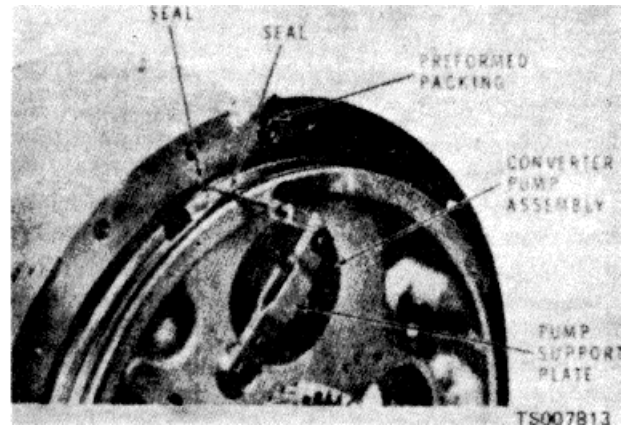

Figure 14-10. Torque Converter Housing Showing Pump and Seals
j. Position the gear (34) on the drive shaft of the converter oil pump (35) and press the gear over the shaft. Place the washer (33) on the shaft and secure in place using the retaining ring (32).
k. Position the converter pump assembly on the plate (40) and secure them together using the screws (36) and lockwashers (38). Torque bolts to 20 to 25 ft/lbs. Insert the pump into the housing and secure the plate in position using the screw (37) and lockwasher (39).
l. Position new seals (42 and 43) and preformed packing (44) on the housing as shown in figure 14-10. Position the housing (50, fig. 14-5) on the housing (36, fig. 14-2). Align the gears so that they mesh by turning